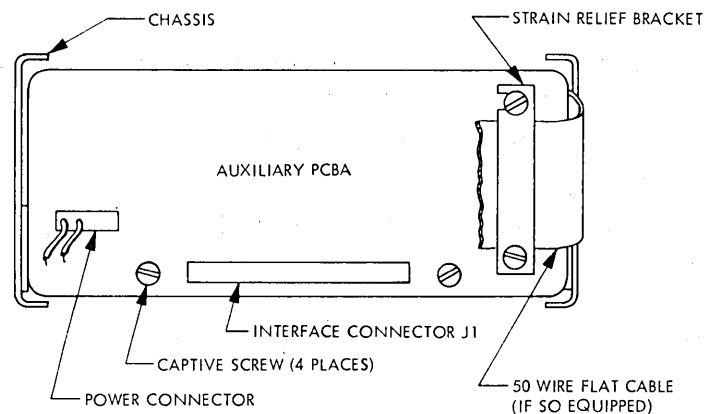

Figure 5-1. Auxiliary PCBA Installation
The Auxiliary PCBA is an option and not included with every drive. This PCBA is secured to the chassis with captive hardware located on either side of the interface connector J1, and with a bracket which attaches to one side of the chassis. A view of this PCBA is shown in Figure 5-1. It should be noted that some versions of Auxiliary PCBAs have 50-wire flat interface cables attached.
- (1) Remove the PCBA as detailed in Paragraph 5.1.1.
- (2) Remove the plastic tie wraps on the wiring harness connecting the photo-transistor assembly to the 30-pin AMP connector (P2). Note the approximate locations of the tie wraps.
- (3) Using an AMP extractor tool, remove the photo-transistor pins from P2. Note color code and pin numbers.
- (4) Remove the bracket mounting screws. Remove the photo-transistor bracket from the base plate. Refer to Figure 5-1 for location of the mounting screws. Retain the mounting hardware.
- (5) Carefully pull the photo-transistor wires up through the grommet in the chassis.
- (6) Remove photo-transistor assembly from mounting bracket; retain hardware.